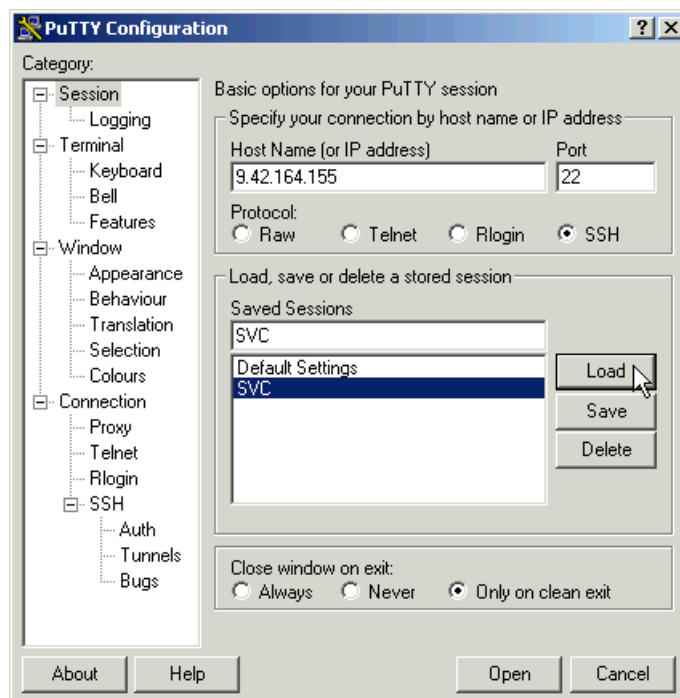

Figure 8-1 Starting PuTTY
2. On the main screen (Figure 8-1), select the session you created and saved in 5.1, “Configuring the PuTTY session for the CLI” on page 86 (for example, SVC), and click **Load**. Then click **Open** to begin your session.